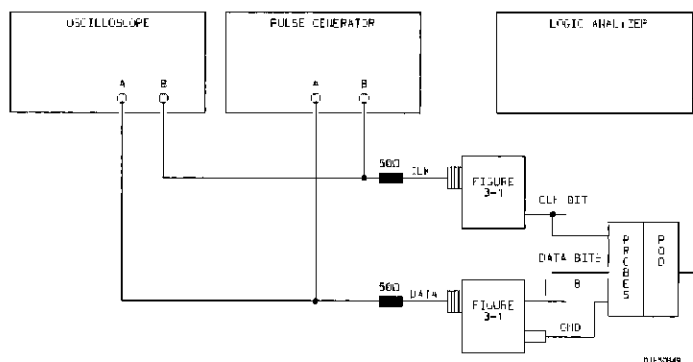

Figure 3-2. Setup for Data Test 1
1. Connect the HP 1650B\51B and test equipment as in figure 3-2.